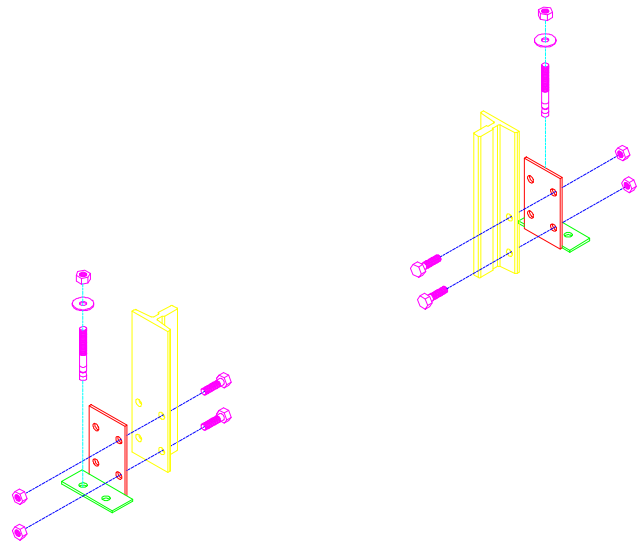
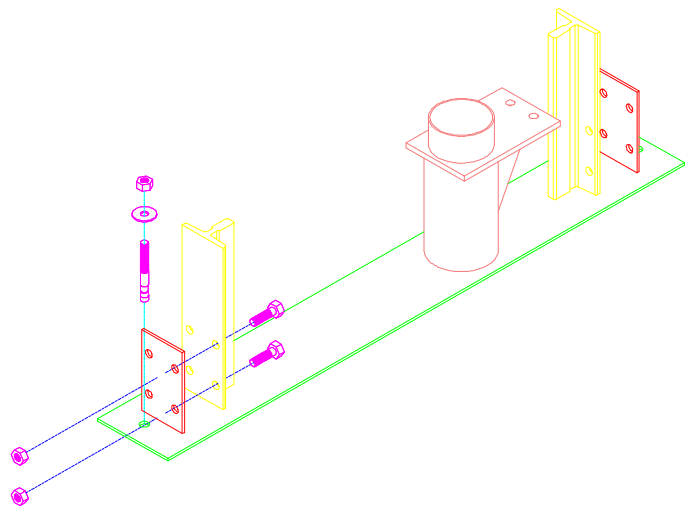

Figure 2a
Figure 2b
3. Loosely install bottom rail brackets to bottom (female) end of rails (Fig 2a). If you have a roped installation, the bottom rail brackets are part of the bottom plate, which is installed now (Fig 2b).